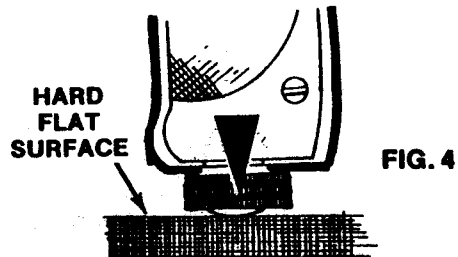

FIG. 4
- B. To pierce the Powerlet, grip the gun firmly with both hands and press the Piercing Assembly down on a hard surface (table top, etc.) (See Fig. 4)